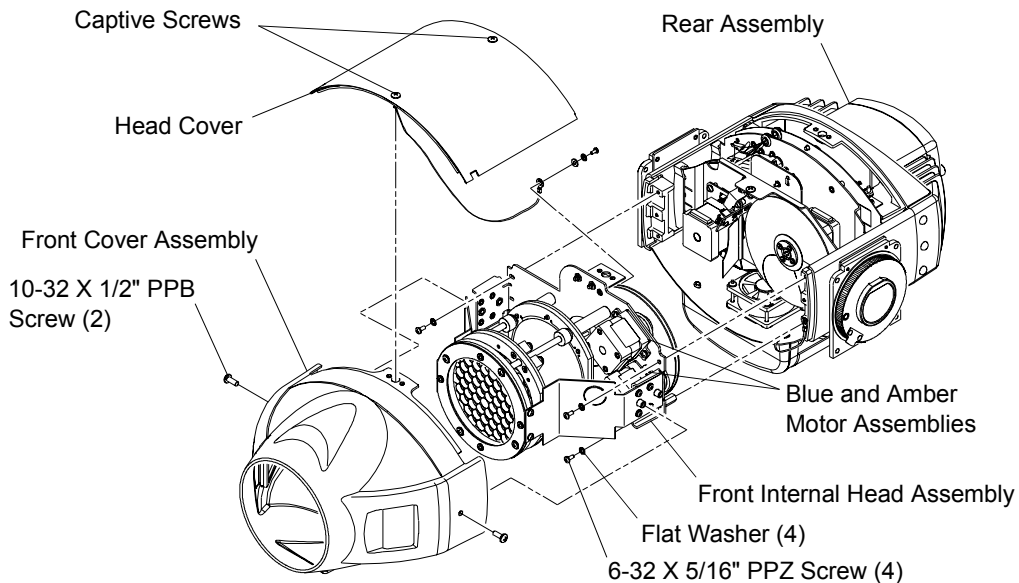

Figure 2-10: Front Internal Head Assembly Replacement
- Step 3. At front cover assembly, remove two 10-32 X 1/2" PPB screws, and remove front cover assembly (**Figure 2-10**).
- Step 2. At head cover, turn two captive screws one-quarter turn and remove cover (**Figure 2-10**). (It will remain attached by tether.)